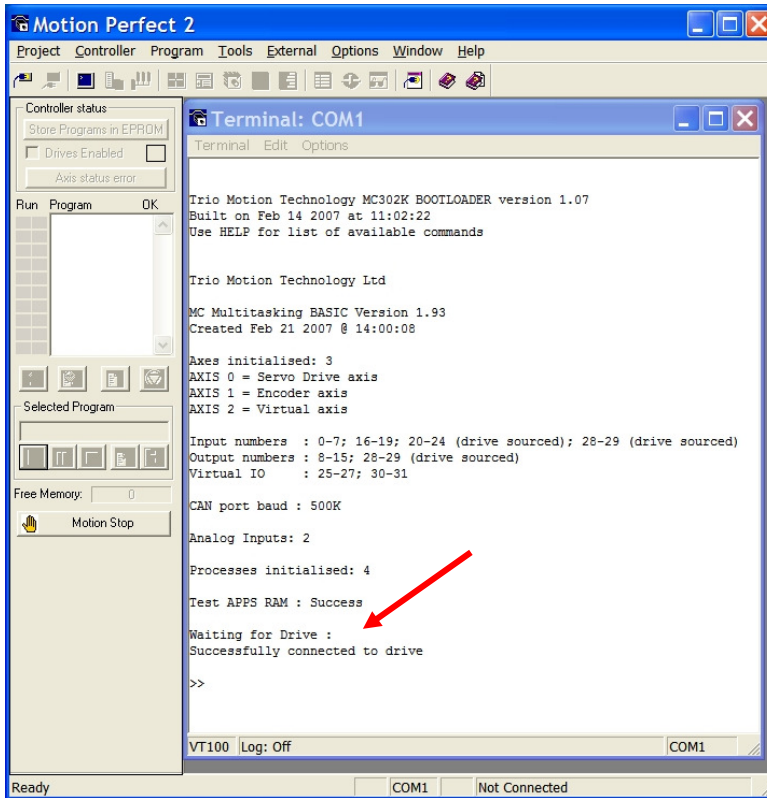

Fig 7 – Successfully configured system boot-up message
5. A properly setup system will look like Fig. 7. If the `SERVO_PERIOD` and/or `PTBASE` parameters are not set correctly, the boot-up message will look like Fig. 8. Recheck both and cycle power again.